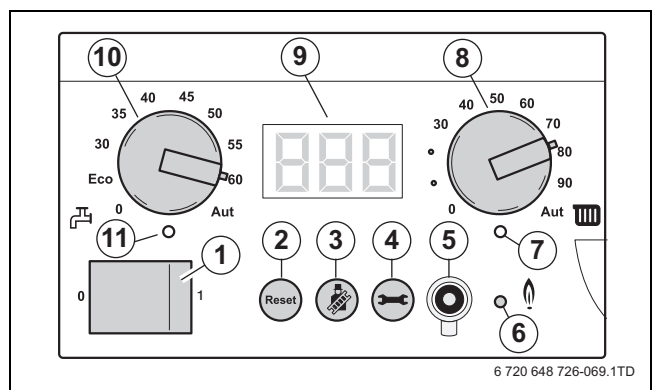

Fig. 90 BC10 basic controller
- ▶ Switch off the power supply to the heating system (→ fig. 90).
- ▶ Switch off the heating system by pressing the mains switch of the BC10 basic controller (→ fig. 90, [1]).
- ▶ Switch on the heating system by pressing the mains switch of the BC10 basic controller (→ fig. 90, [1]).
- ▶ Press and hold the “Chimney sweep” button (→ fig. 90, [3]) (approximately 2 seconds), until the dot in the right-hand bottom corner of the display (→ fig. 90, [9]) appears. See also table 10, “Flue gas test”, page 34.
- ▶ After the “Burner” LED (→ fig. 90, [6]) has lit up wait for one minute until the boiler is burning at full load.
- ▶ Press the “Chimney sweep” button (→ fig. 90, [3]) to clear the reading. See also table 10, “Flue gas test”, page 34.
- ▶ After the “Burner” LED (→ fig. 90, [6]) has lit up wait for one minute until the boiler is burning at part load.
- ▶ Switch off the heating system by pressing the mains switch of the BC10 basic controller → fig. 90, [1]).
- ▶ Set the DHW temperature dial (→ fig. 90, [10]) to the required temperature of the hot water in the hot water cylinder (→ table 18).